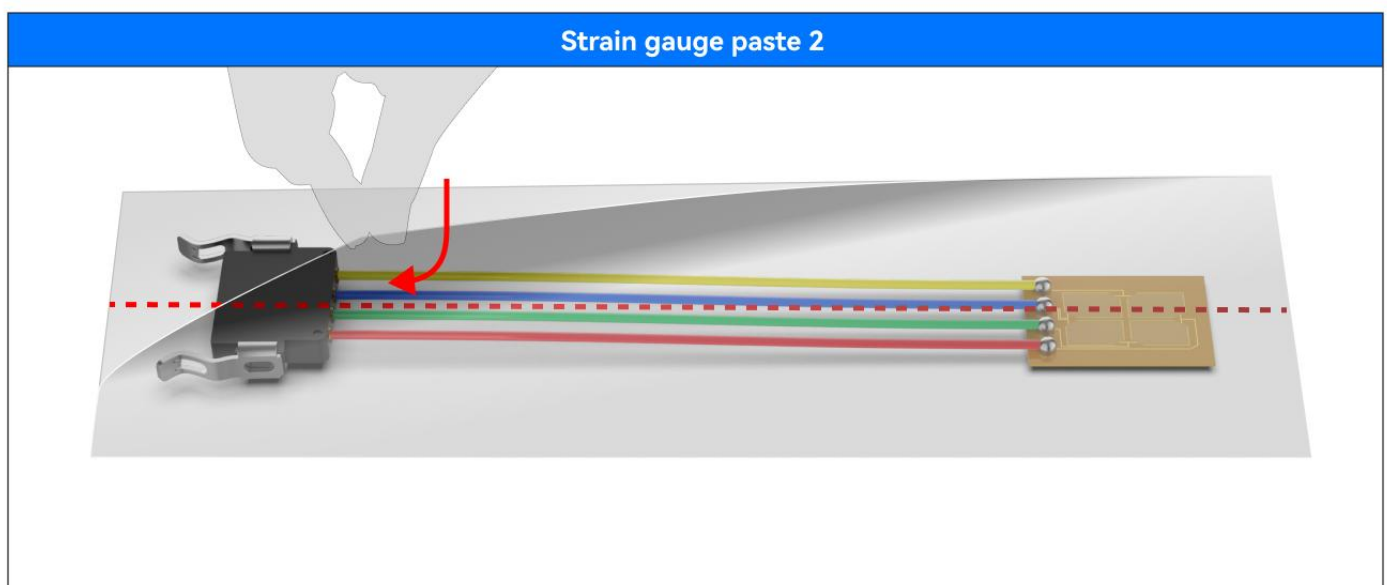
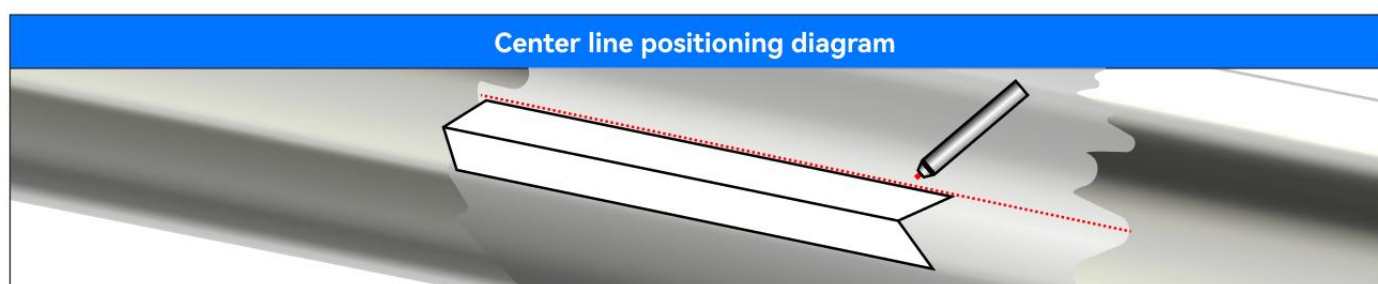

Figure 3.9
Figure 3.14
4. After applying the first layer of tape, mark a line on the strain gauge using the non-erasable mark, as shown in Figure 3.9, parallel to the long side of the strain gauge. Then add a second layer of mylar tape. When the strain gauge is applied to the shaft, the second layer will prevent the tape from curling. Gently lift the two layers of tape while the strain gauge is glued to it to ensure that you are always able to handle the tape and not the strain gauge itself.
3. The installation of Marine torque gauges requires the installation of strain gauges along the guide line parallel to the axis. Place the Angle iron flush with the shaft and use a ballpoint pen to mark the polishing line parallel to the shaft, as shown in Figure 3.14. This will serve as a positioning reference for the center line marked on the mylar tape above the strain gauge in Figure 3.9.